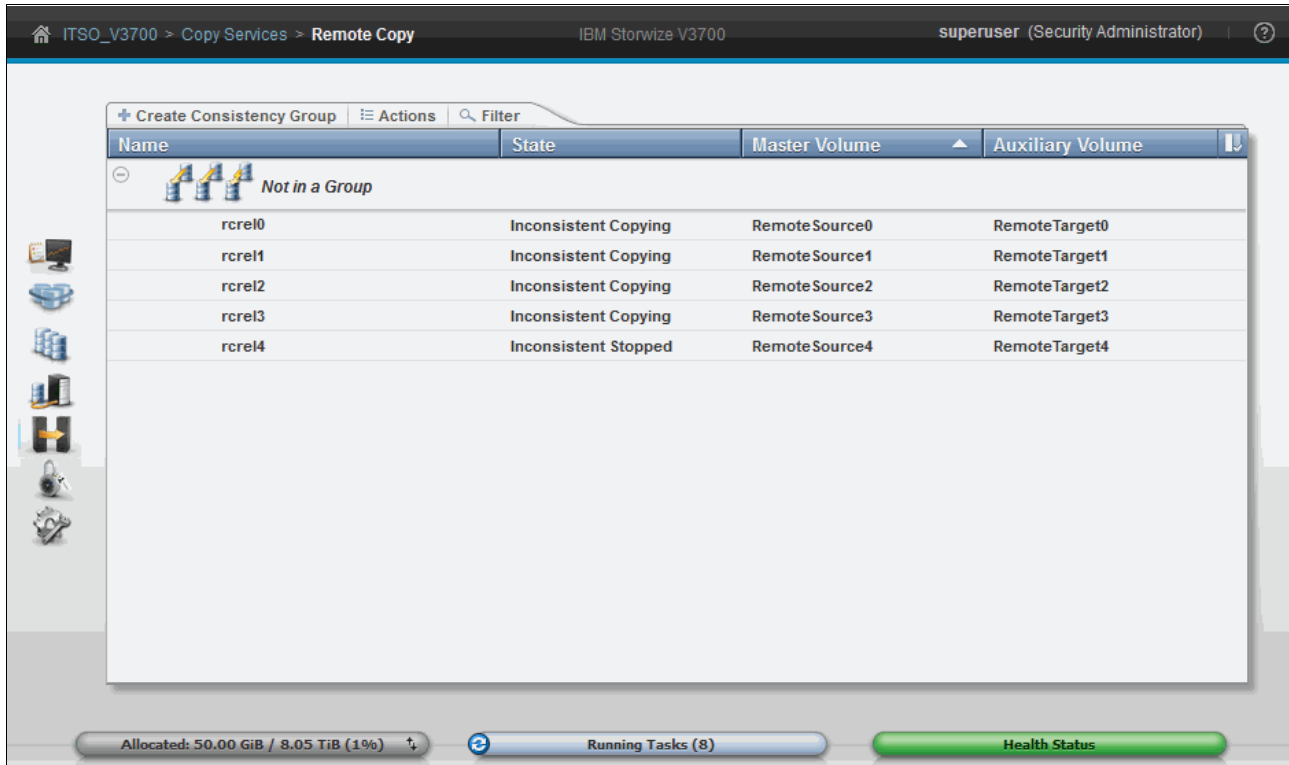

Figure 10-111 Remote Copy relationship stop completes
- After the stop completes, the state of the Remote Copy relationship is changed to **Inconsistent Stopped** if it is still in the process of copying, as shown in Figure 10-111. If the relationship was **Consistent Synchronized**, it changes to **Consistent Stopped** if secondary read/write access was not allowed. Otherwise, the state is **Idling**.